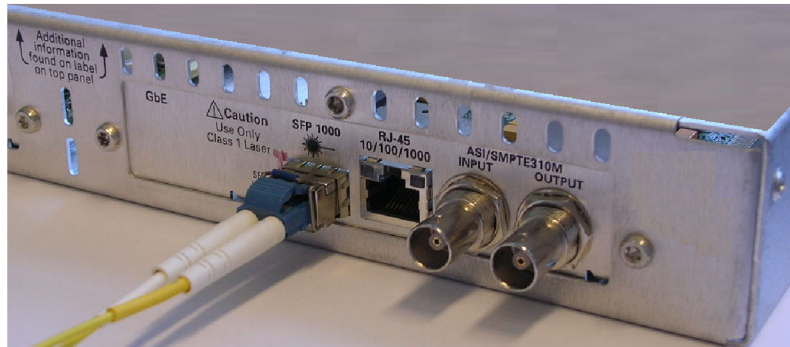

Figure 48: Optical cable connected to SFP module
- b. Insert the optical cable into the SFP module. When fully inserted, the cable connector is latched in position. (See Figure 48.)